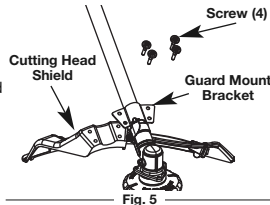

Fig. 5
- Place the cutting head shield onto the guard mount bracket, making sure to align the holes on the shield with the ones in the guard mount bracket. (Fig. 5)